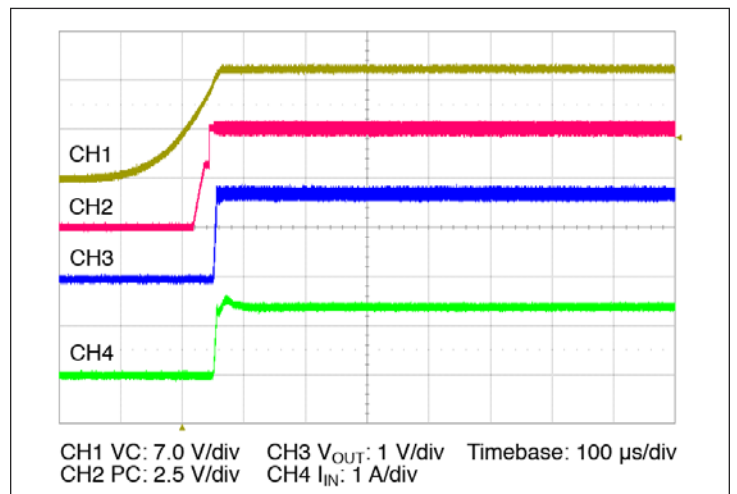

Figure 14 — Start up from application of VC; V_{IN} pre-applied $C_{OUT} = 0 \mu$ F
- Stand Alone Operation (VC applied after V_{IN}): In this case the module output will begin to rise upon the application of the VC voltage (See Figure 14). The Adaptive Soft Start circuit (See Section 10) may vary the output rate of rise in order to limit the inrush current to its maximum level. When starting into high capacitance, or a short, the output current will be limited for a maximum of 900 µsec. After this period, the adaptive soft start circuit will time out and the module may shut down. No restart will be attempted until VC is re-applied, or PC is toggled. The maximum output capacitance is limited to 1500 µF in this mode of operation to ensure a successful start.